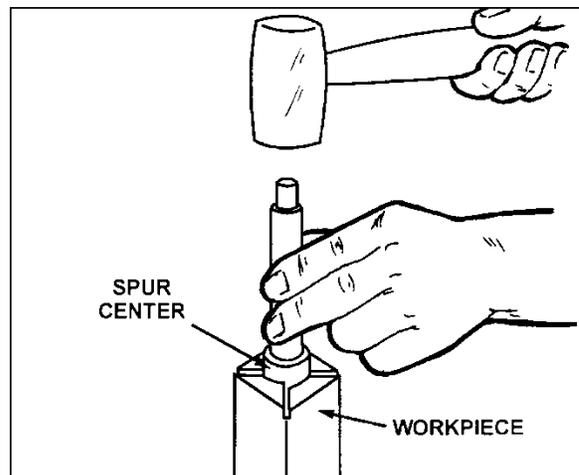

Figure 10-4
3. Drive the spur center about 1/4" into the workpiece, using a wood mallet or dead blow hammer as shown in Figure 10-4. Be careful that you do not split the workpiece. **Never use a steel face hammer and never drive the workpiece onto the spur center while it is mounted in the lathe spindle.**